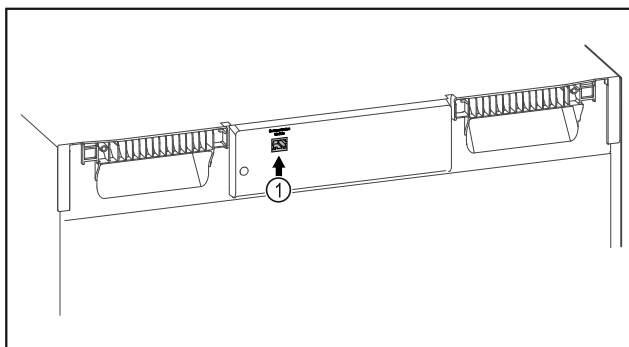

Fig. 155
- ❑ SmartModule Fig. 155 (1) is in use.